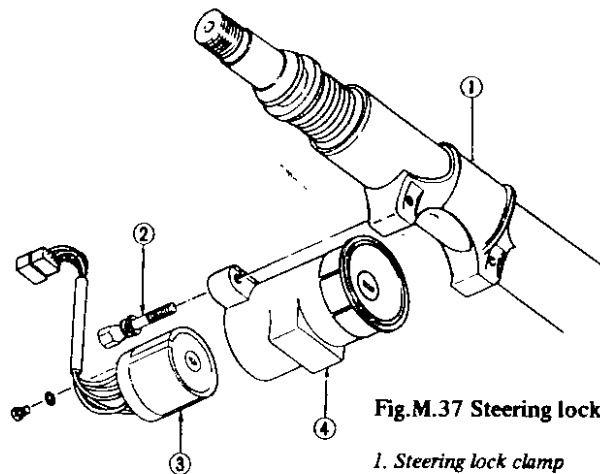

Fig. M.37 Steering lock installation.
The steering lock is built-in to the ignition switch. When the key is turned to the "LOCK" position and then removed, the steering system is automatically locked by the steering lock spindle which engages in a notch in the collar on the steering shaft. (See Fig.M.37.). The heads of the screws are sheared off on installation so that the steering lock system cannot be tampered with. If the steering lock is to be replaced it will be necessary to remove the two securing screws (8), and then drill out the self shearing screws (7). When installing a new steering lock, tighten the new self shearing screws until the heads shear.